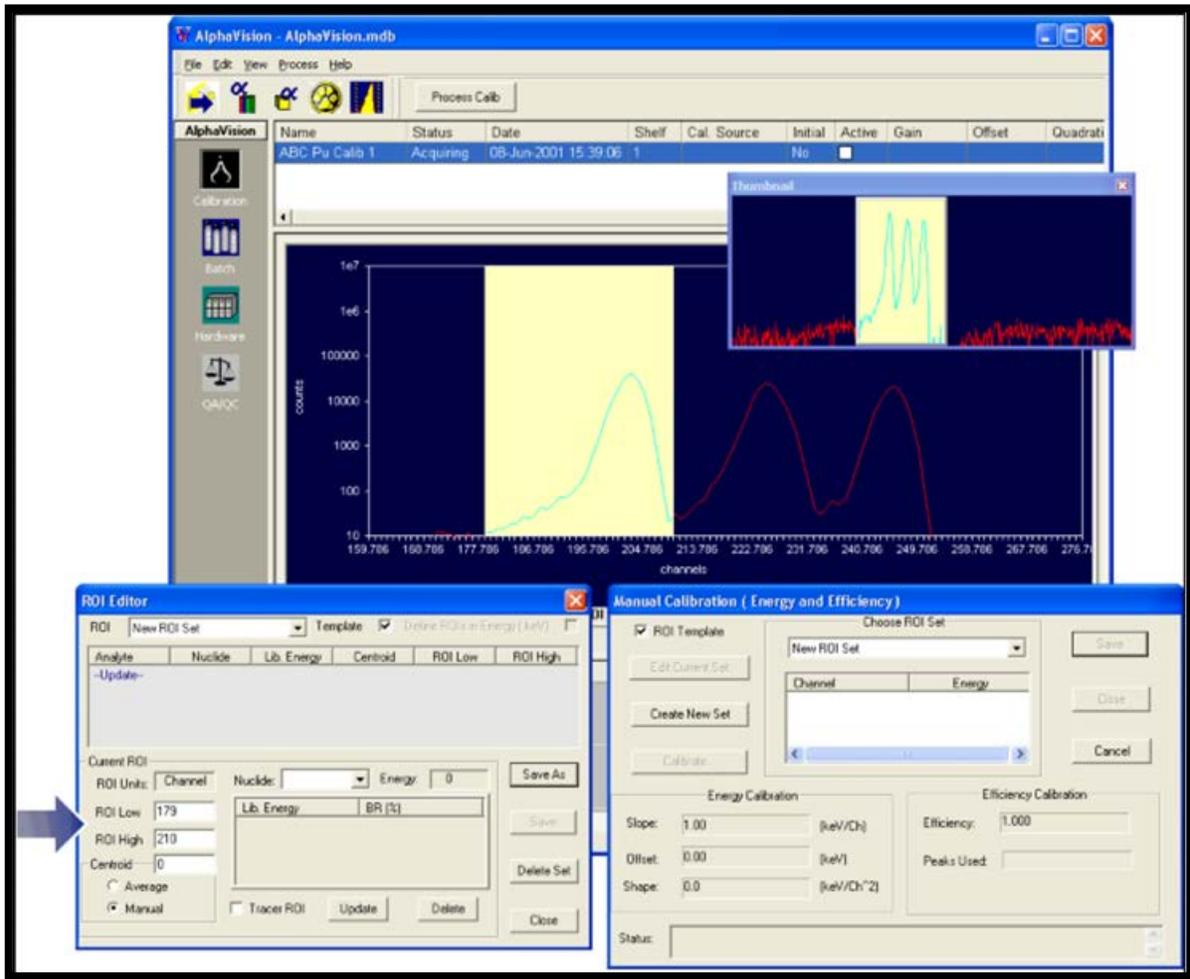

Figure 85. With <CTRL> + Mouse, Mark the ROI by Dragging the Cursor from Low to High Channel
- 7) Pressing and holding the **<Ctrl>** key, left-click the low-channel end of the ROI, drag the mouse to the high-channel end, then release the mouse button and the **<Ctrl>** key. This will mark the ROI and automatically enter its **Low** and **High** channels (or energies) in the ROI Editor (Figure 85).